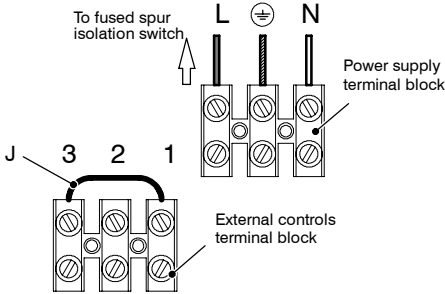

Fig. 6.13
- 6 Connect the electrical supply flexible cord coming from the fused spur isolation switch to the power supply terminal block of the boiler (Fig. 6.13) keeping the same connections for the live (brown wire) and the neutral (blue wire). External 3 A fuse or fused plug with same current rating is recommended.
When connecting any type of external control, the link J in Fig. 6.13 must be removed.